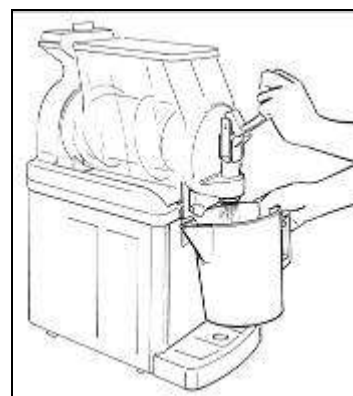

Fig. 4
- **E**mpy the bowl and repeat the same operations until the coming out water is clear (fig.4).